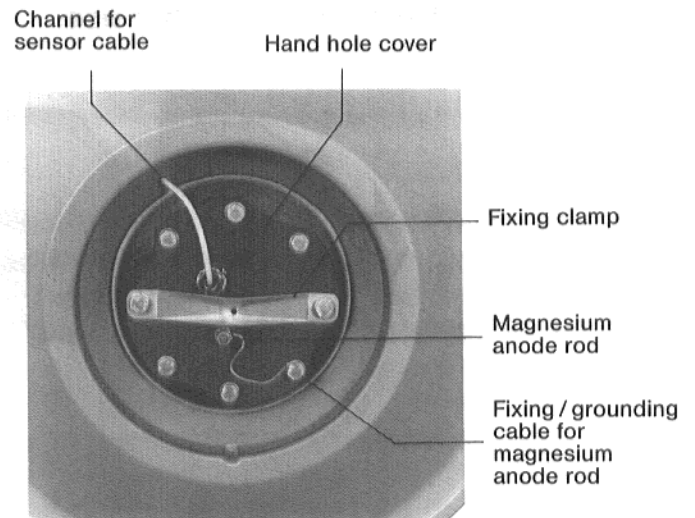

Fig. 7
3. Remove bolts from hand hole cover, take off fixing clamp and then remove hand hole cover with anode and O-ring seal (Fig. 7).
8. Fasten fixing clamp with 2 hexagonal screws by hand as per Fig. 7.
9. Insert loop of the grounding cable and screw in the other hexagonal bolts (Fig. 7).